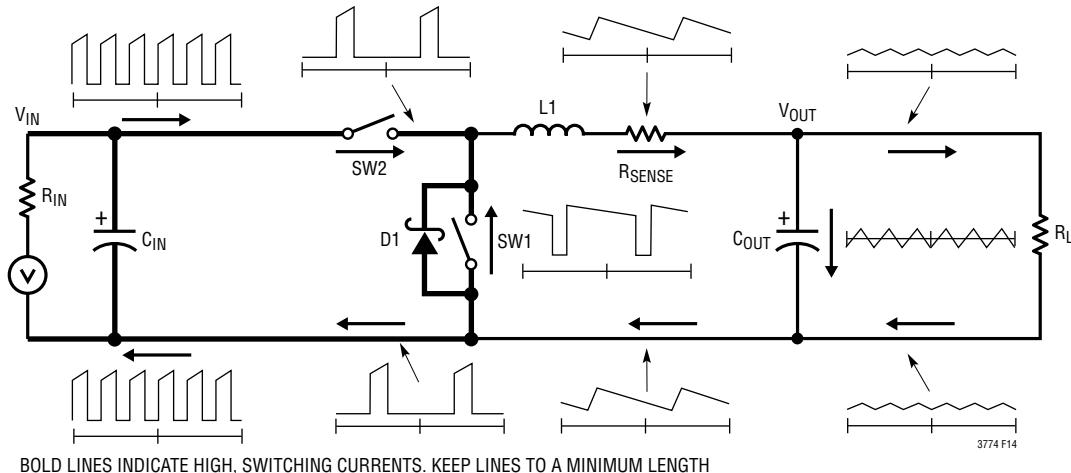

Figure 14. Branch Current Waveforms
When laying out the printed circuit board, the following checklist should be used to ensure proper operation of the IC. These items are also illustrated graphically in the layout diagram of Figure 14. Check the following in the PC layout:
7. The 47pF to 330pF ceramic capacitor between the I_{TH} pin and signal ground should be placed as close as possible to the IC. Figure 14 illustrates all branch currents in a switching regulator. It becomes very clear after studying the current waveforms why it is critical to keep the high switching current paths to a small physical size. High electric and magnetic fields will radiate from these *loops* just as radio stations transmit signals. The output capacitor ground should return to the negative terminal of the input capacitor and not share a common ground path with any switched current paths. The left half of the circuit gives rise to the *noise* generated by a switching regulator. The ground terminations of the synchronous MOSFET and Schottky diode should return to the bottom plate(s) of the input capacitor(s) with a short isolated PC trace since very high switched currents are present. External OPTI-LOOP® compensation allows overcompensation for PC layouts which are not optimized but this is not the recommended design procedure.